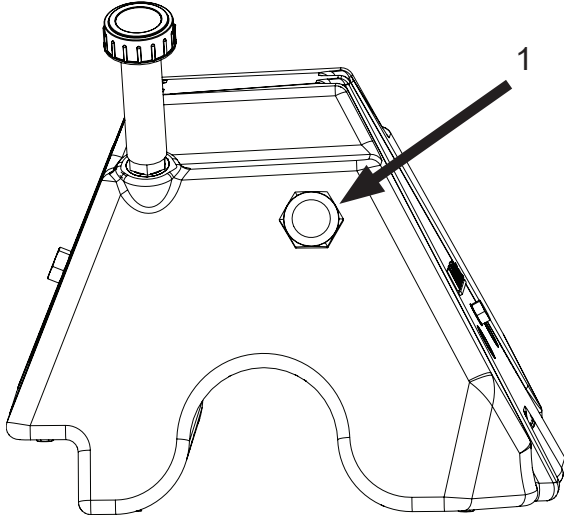

Figure 6
9. Check the oil level in the nylon reservoir sight glass (Figure 6, Item 1). The oil level should be visible in the middle of the sight glass.